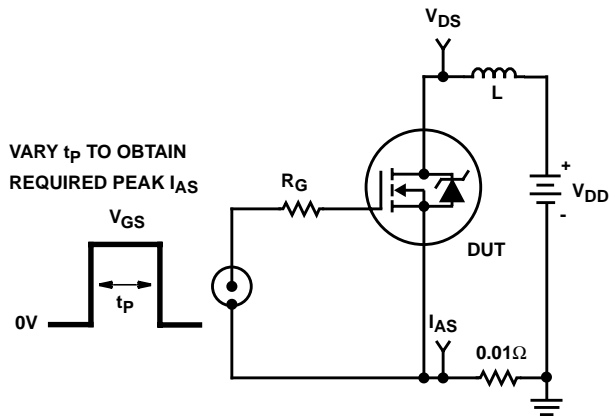

FIGURE 14. UNCLAMPED ENERGY TEST CIRCUIT
4. $V_{DD} = 10\text{V}$, $T_J = 25^\circ\text{C}$, $L = 820\mu\text{H}$, $I_{PEAK} = 14\text{A}$. (See Figures 14 and 15).